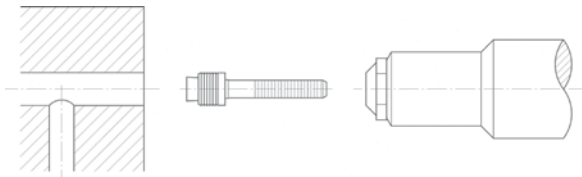

Fig.1
- / Insert the plug in the tool, ensuring that the sleeve is against the nosepiece (Fig. 1).